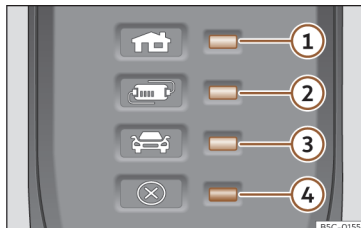

Fig. 200 On the charging cable for power sockets: Indicator lamps on the protection device.
>>> Fig. 200:
The electronic protection device >>> Fig. 200 ensures that the charging connector does not receive current until it is plugged in to the vehicle's charging connector.
One or more indicator lamps >>> Fig. 200 ①, ② or ③ light up green. »
Display»» Fig. 200	Meaning
If the red warning light ④ flashes or turns on without one of the indicator lamps »» Fig. 200 ①, ② or ③ also turning on continuously on the status indicator, there is a fault.